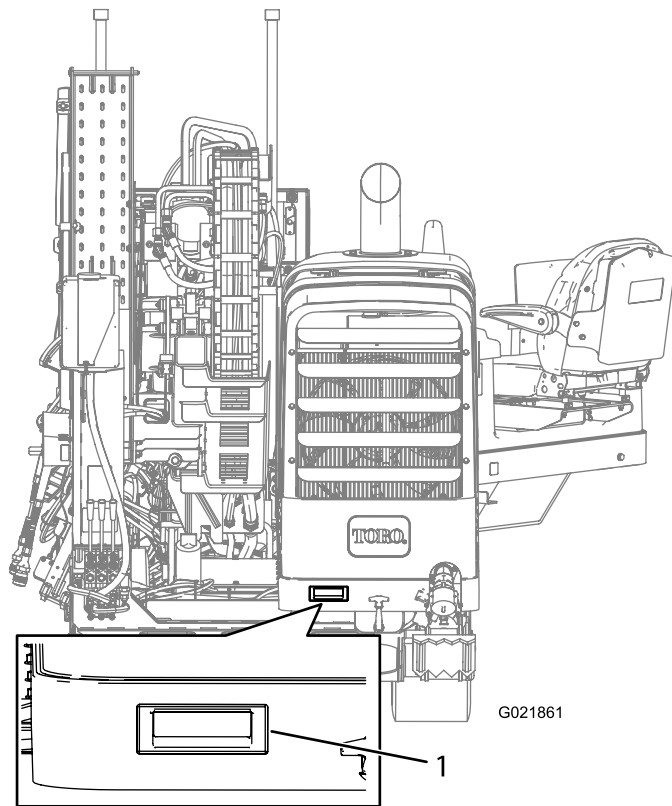

Figure 98
3. Lift up the handle as shown in Figure 98.